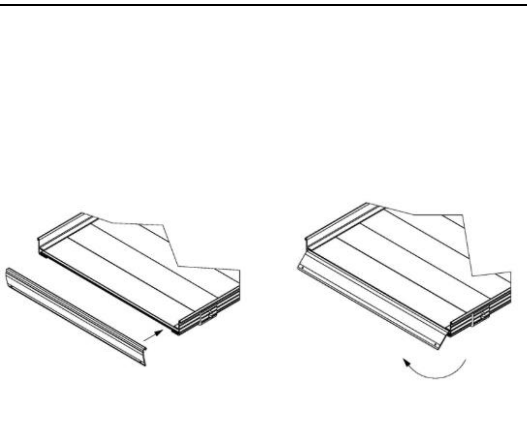

FIG. 3.16
- 3.6.4. Place the upper end of the ramp onto supporting surface (i.e., platform, porch, etc.). Once the ramp is resting on the porch or platform, lift the upper end of the ramp and install the PRUT (RAMP UPPER TRANSITION) into what will be the upper end of the ramp (FIG. 3.16) and the PRGT (RAMP GROUND TRANSITION) into what will be the lower end of the ramp.